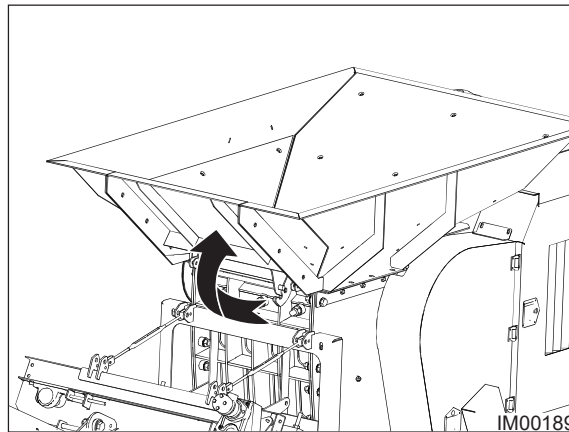

Fig: 7.7 - Hopper Rear Panel
2. Using suitable lifting equipment, or suitable work platform, with the aid of 2 people, raise the rear hopper panel into the working position and secure down both sides with bolts (Fig: 7.7).